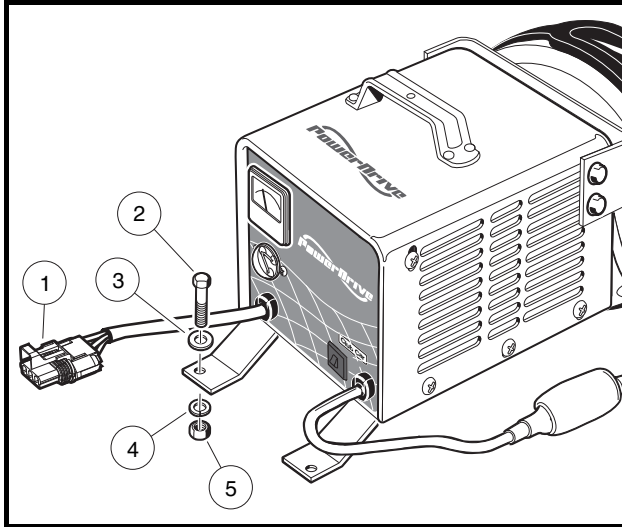

Figure 4-29 Onboard Charger Mounting – Precedent Vehicles
2. Disconnect the charger DC cord at the three pin connector (1) (**Figure 4-29, Page 4-35**).
3. Remove four bolts (2), flat washers (3), lock washers (4) and nuts (5) securing charger to chassis.